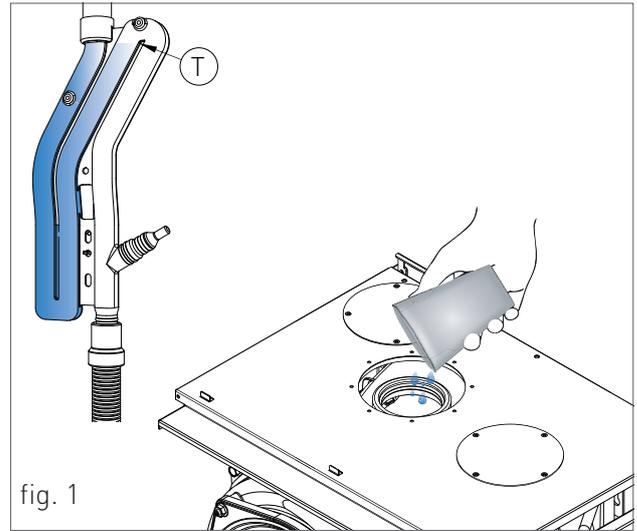

fig. 1
Fill the condensate collection siphon as follows (see fig. 1):
- > With a glass pour the water in the heat exchanger's flue exhaust duct outlet (see fig. 1), up to fill the condensate trap to the highest point "T" (fig. 1);